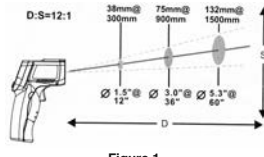

Figure 1
1. When taking measurements, pay attention to the Distance to Spot Size. As the Distance (D) Fig.1 from the target surface increases, the spot size (S) of the area measured by the unit becomes larger.